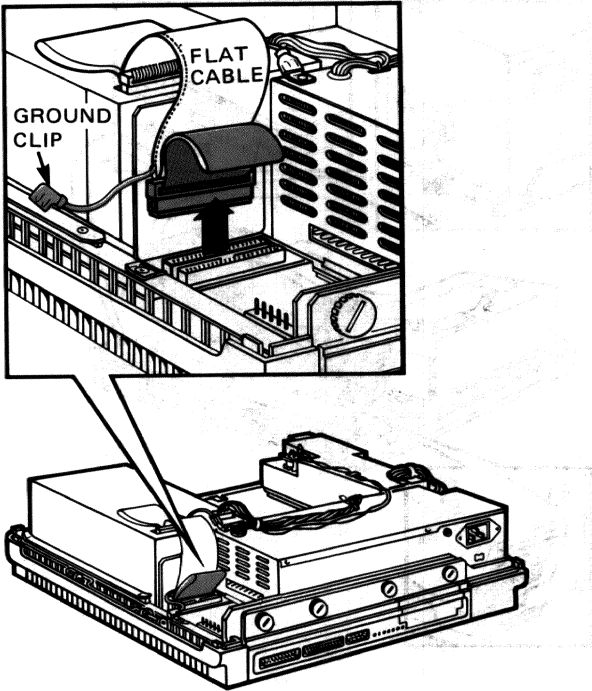

Figure 5-36 Unplugging Diskette Drive Flat Cable(s)
10. Unplug the diskette drive flat cable(s), Figure 5-36. Unplug the ground clip(s) from the ground lug. Fold the cable(s) over the top of the diskette drive.